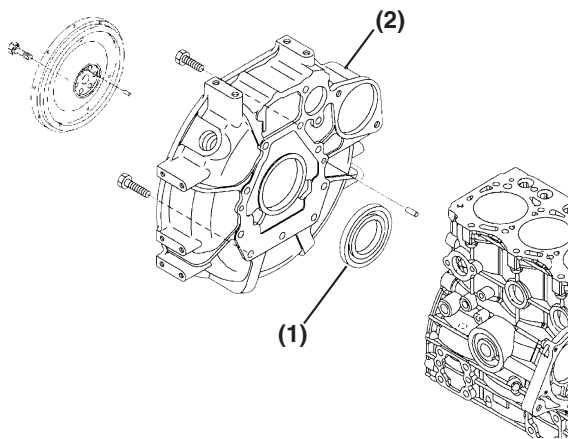

Figure 6-62
4. Remove the rear oil seal (Figure 6-62, (1)) from the flywheel housing (Figure 6-62, (2)).
5. Apply a continuous bead of ThreeBond Liquid Gasket No. 1212, Yanmar Part No. 977770-01212 to the outside diameter of a new oil seal (Figure 6-62, (1)).
6. Install a new seal in the flywheel housing (Figure 6-62, (2)) with the lip facing in away from the flywheel. Apply lithium grease to the lip of the seal.